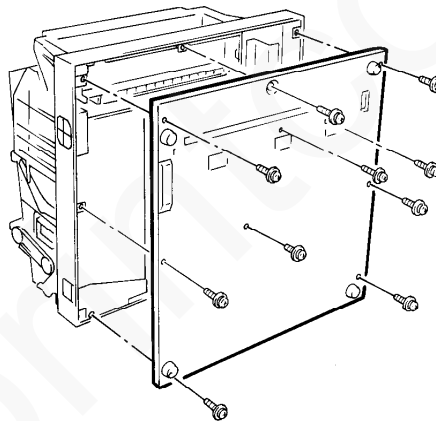

Figure 2. Bottom pan
8. Remove the ten screws retaining the bottom pan to the chassis (figure 2).
9. Remove the bottom pan (figure 2).